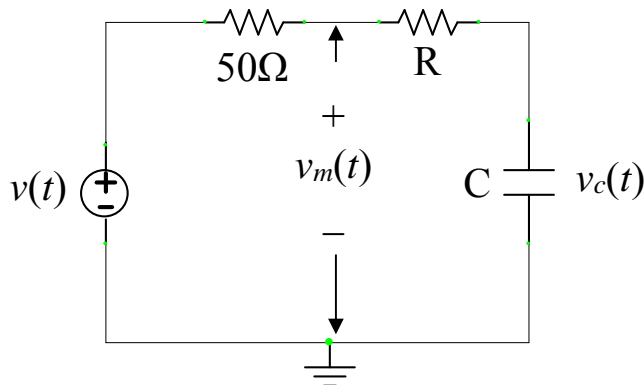

Figure 1. Test Circuit accounting for output impedance of function generator.
2. Assume the source $v(t)$ is a function generator, where the source voltage can only be measured after the $50\ \Omega$ internal resistance. See **Fig. 1**.
- b) Find the voltage measured at the output of the function generator, $v_m(t)$, as shown in **Fig. 1**. (Hint: Use the solution to part A to find $R*i_c(t) = RC*dv_c/dt$ and KVL).
6. Repeat Problem 5 for the circuit of **Fig. 1**, and find transfer function from input $v_m(t)$ to output $v_c(t)$. (Note: If you did the derivation correctly the 50Ω resistor does not affect this transfer function. Therefore, if the phase difference and magnitude scaling between v_m and v_c are measured directly, and the 50Ω internal impedance will not have to be accounted for even when small resistors values are used).